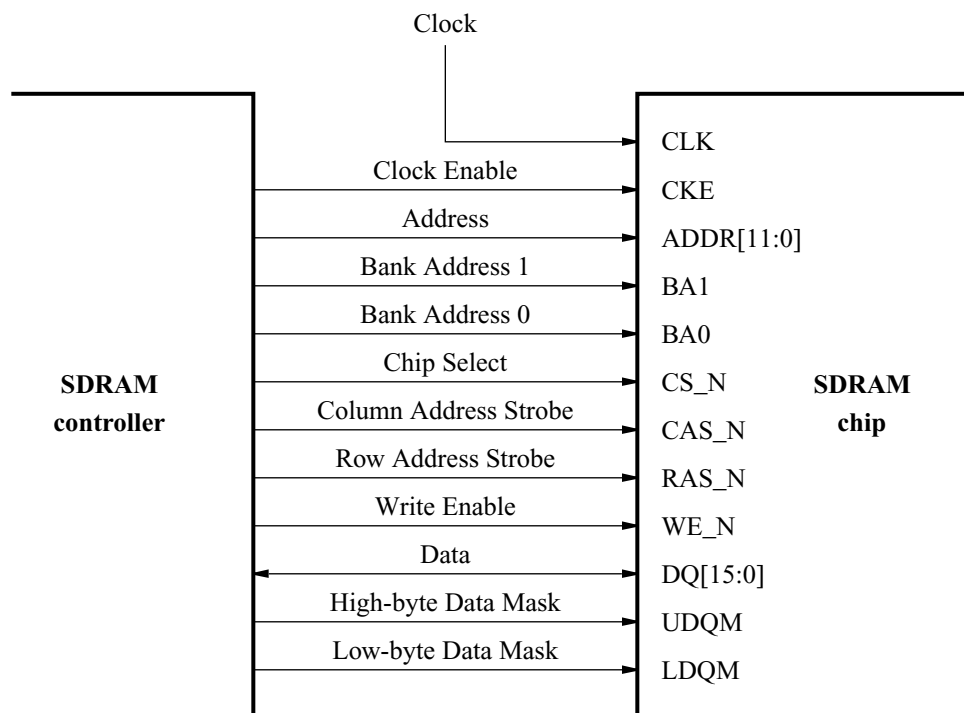

Figure 2. The SDRAM signals.
The SDRAM chip on the DE2 board has the capacity of 64 Mbits (8 Mbytes). It is organized as 1M x 16 bits x 4 banks. The signals needed to communicate with this chip are shown in Figure 2. All of the signals, except the clock, can be provided by the SDRAM Controller that can be generated by using the SOPC Builder. The clock signal is provided separately. It has to meet the clock-skew requirements as explained in section 5. Note that some signals are active low, which is denoted by the suffix N.
The augmented VHDL entity generated by the SOPC Builder is in the file *nios_system.vhd* in the directory of the project. Figure 6 depicts the portion of the code that defines the port signals for the entity *nios_system*. As in our initial system that we developed in the introductory tutorial, the 8-bit vector that is the input to the parallel port *Switches* is called *in_port_to_the_Switches*. The 8-bit output vector is called *out_port_from_the_LEDs*. The clock and reset signals are called *clk* and *reset_n*, respectively. A new entity, called *sdram*, is included. It involves the signals indicated in Figure 2. For example, the address lines are referred to as the OUT vector *zs_addr_from_the_sdram[11:0]*. The data lines are referred to as the INOUT vector *zs_dq_to_and_from_the_sdram[15:0]*. This is a vector of the INOUT type because the data lines are bidirectional.
A first attempt at creating the new entity is presented in Figure 7. The input and output ports of the entity use the pin names for the 50-MHz clock, *CLOCK_50*, pushbutton switches, *KEY*, toggle switches, *SW*, and green LEDs, *LEDG*, as used in our original design. They also use the pin names *DRAM_CLK*, *DRAM_CKE*, *DRAM_ADDR*, *DRAM_BA_1*, *DRAM_BA_0*, *DRAM_CS_N*, *DRAM_CAS_N*, *DRAM_RAS_N*, *DRAM_WE_N*, *DRAM_DQ*, *DRAM_UDQM*, and *DRAM_LDQM*, which correspond to the SDRAM signals indicated in Figure 2. All of these names are those specified in the DE2 User Manual, which allows us to make the pin assignments by importing them from the file called *DE2_pin_assignments.csv* in the directory *DE2_tutorials\design_files*, which is included on the CD-ROM that accompanies the DE2 board and can also be found on Altera's DE2 web pages.
--         SDRAM ports correspond to the signals in Figure 2; their names are those